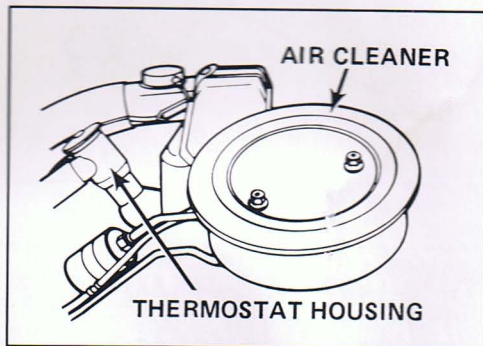

Figure 1 - Top of engine, typical
1. When the engine is cool, open the rear compartment lid for access to the thermostat housing cap and thermostat. See Figure 1.